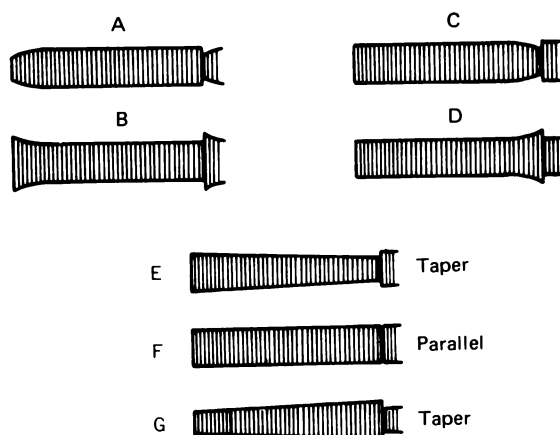

Fig. 2-30 Minimum FM waveform
- 1) If the waveform becomes similar to A, B, C or D in Fig. 2-30, carefully adjust the supply and take-up guide rollers so that the waveform becomes similar to E, F or G.